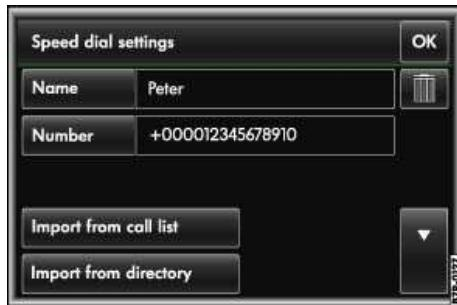

Fig. 238 Speed dial settings menu: Assignment of speed dial buttons.
- In the *PHONE* main menu, press a **free** speed dial button to open the *Speed dial settings* menu ⇒ fig. 238.
- Review all the details entered in the *Speed dial settings* menu ⇒ fig. 238.